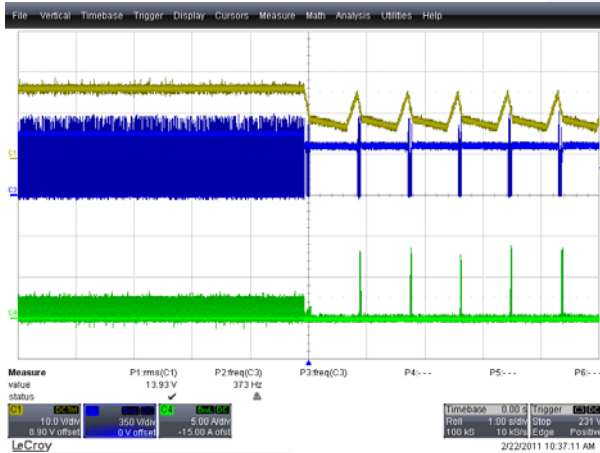
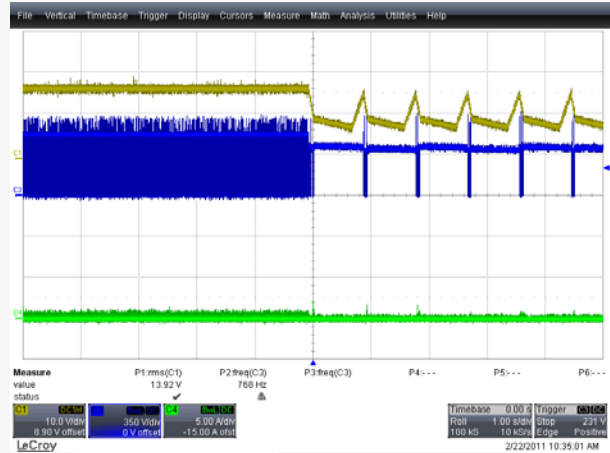

Figure 43. 90 V_{AC} / 60 Hz, CH1 (Yellow): $V_{CC(QR)}$, CH3 (Blue): $V_{DS(QR)}$, CH4 (Green): $I_{DS(QR)}$
Figure 44. 277 V_{AC} / 60 Hz, CH1 (Yellow): $V_{CC(QR)}$, CH3 (Blue): $V_{DS(QR)}$, CH4 (Green): $I_{DS(QR)}$
Figure 43 and Figure 44 show the V_{DS} and I_{DS} waveforms of the MOSFET (QR) at short-load condition. The IC repeats ON and OFF functions in this mode.